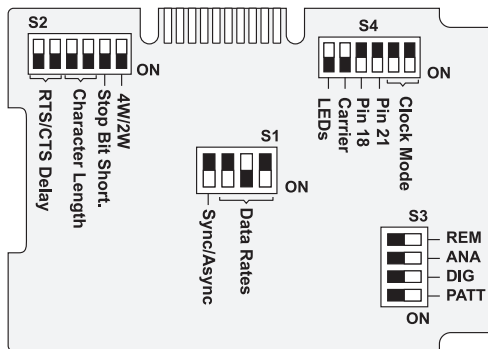
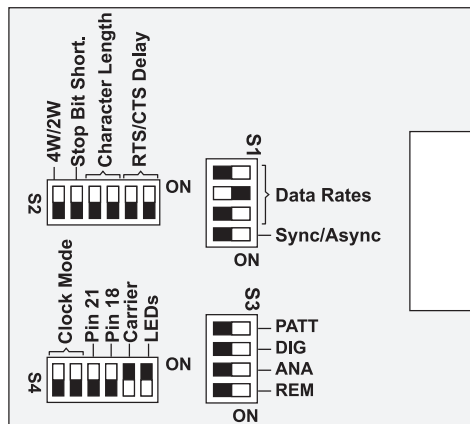

Figure 1. SRM-9/V.35, SRM-9/X.21, SRM-9/530 and SRM-9/V.24 DIP Switch Diagram
Figure 2. SRM-9/V.24/UP DIP Switch Diagram
- Configure the modem according to the desired mode, referring to Figure 1, Figure 2, and Table 3.)